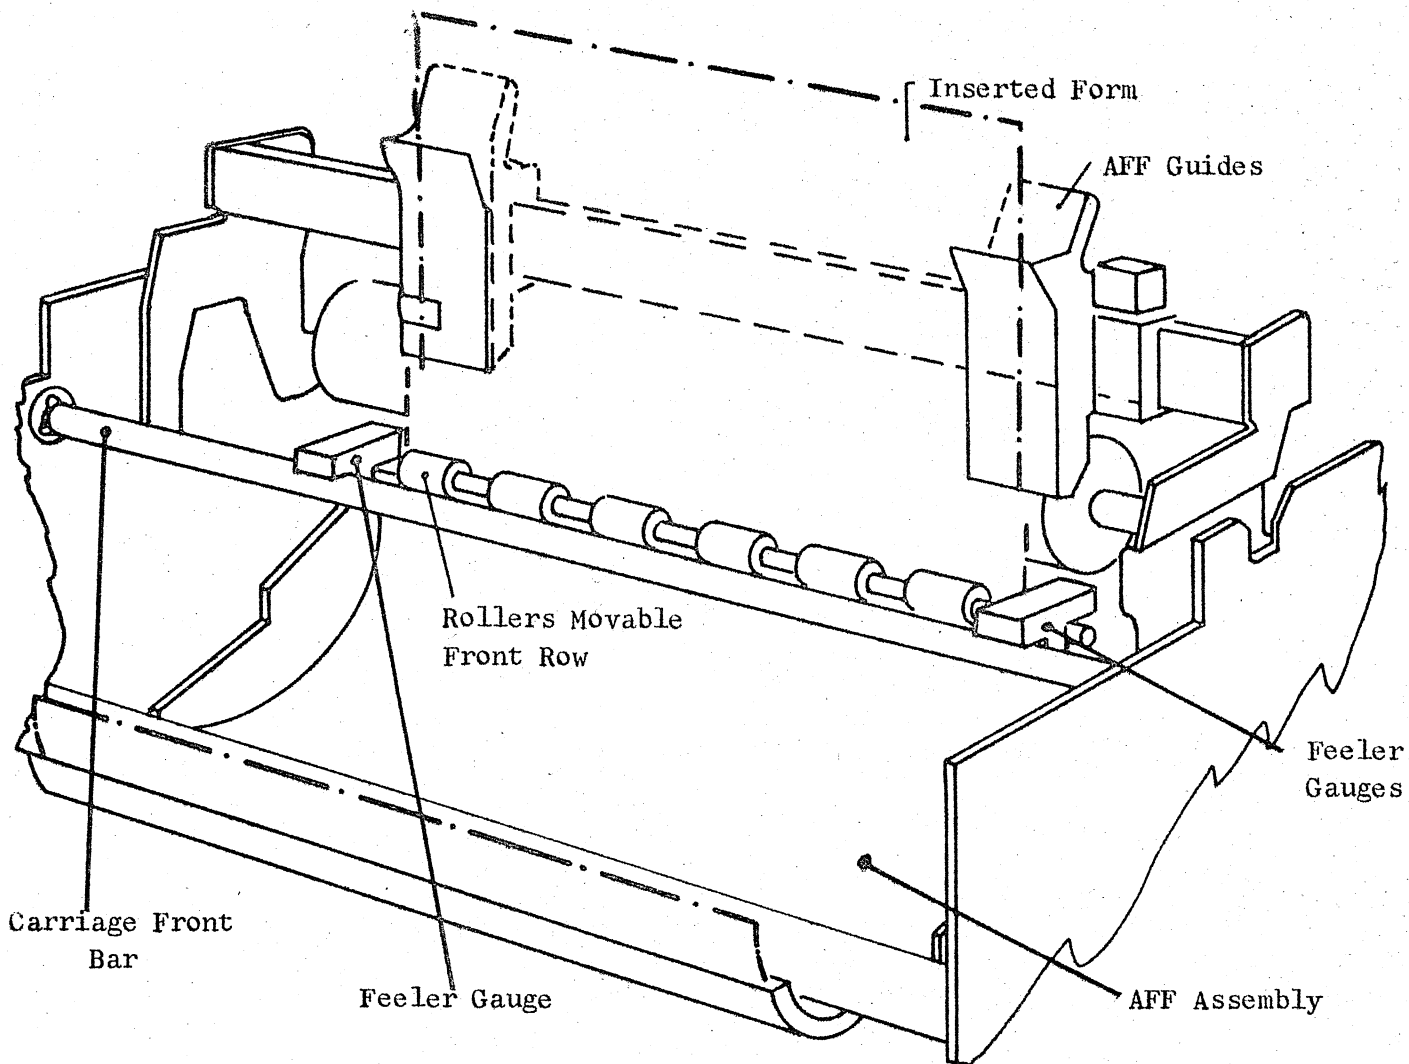

Fig. 8.16
- . Mount the two feeler gauges between the carriage front bar and the AFF rollers movable row (see fig. 8.16).